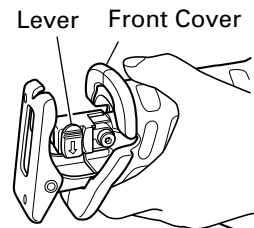

Fig. 2
- (1) Turn on and off the switching trigger several times so that the lever can jump out of the front cover completely. Thereafter, turn off the switch and unplug the power cord. (Fig. 2)
- Do not remove the front cover (refer to Fig. 2). Be sure to hold the body from the top of the front cover.